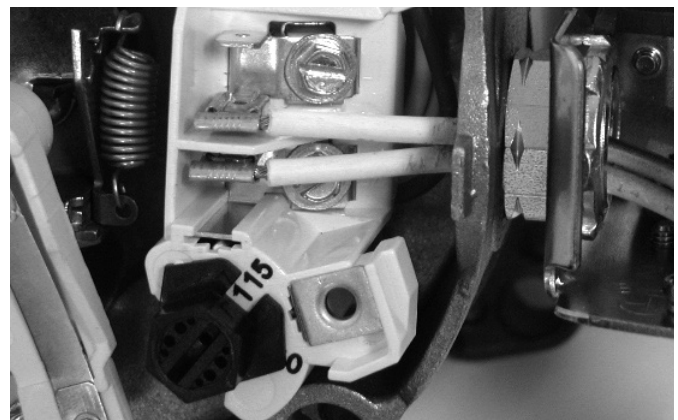

Figure 11: Voltage set to 115 volts, Dial Type
2. Turn the dial counter-clockwise until 115 shows in the dial window as shown in Figure 11.
- Step 1. Connect the ground wire as shown in Figure 11. The ground wire must be a solid copper wire at least as large as the power supply wires.
- Step 4. Connect the power supply wires to the pressure switch as shown in Figure 11.